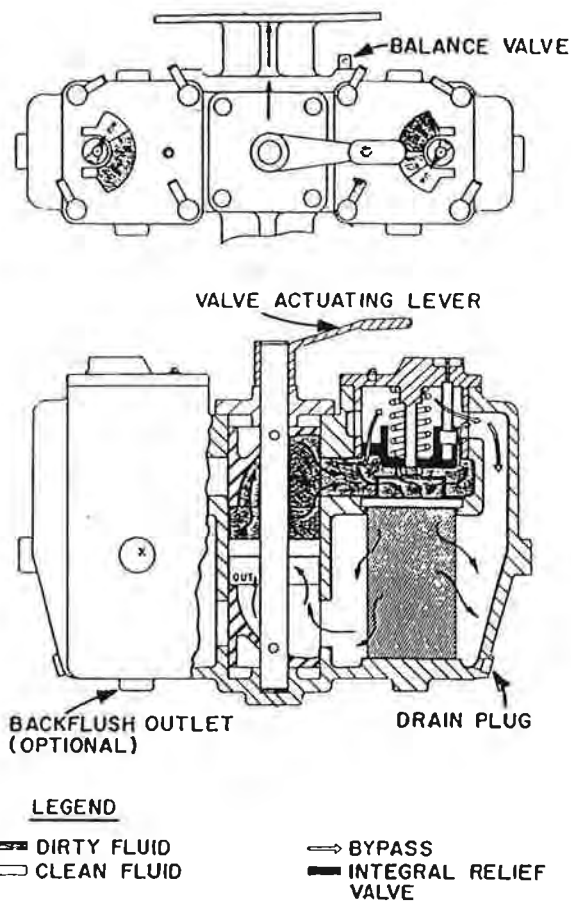

Fig. 9-4. Cross-section of a duplex filter.
9.14 Figure 9-4 shows a filter designed for either a suction or a pressure line. This is a **DUPLEX FILTER**, which has two identical filters side by side. One of them is always in use. When the filter element needs cleaning, the other side of the duplex unit is switched into service. Dirty fluid comes into the midsection and passes down through the filter element, which could be a fine-gage nylon cloth, a wire cloth, or finely perforated stainless steel.